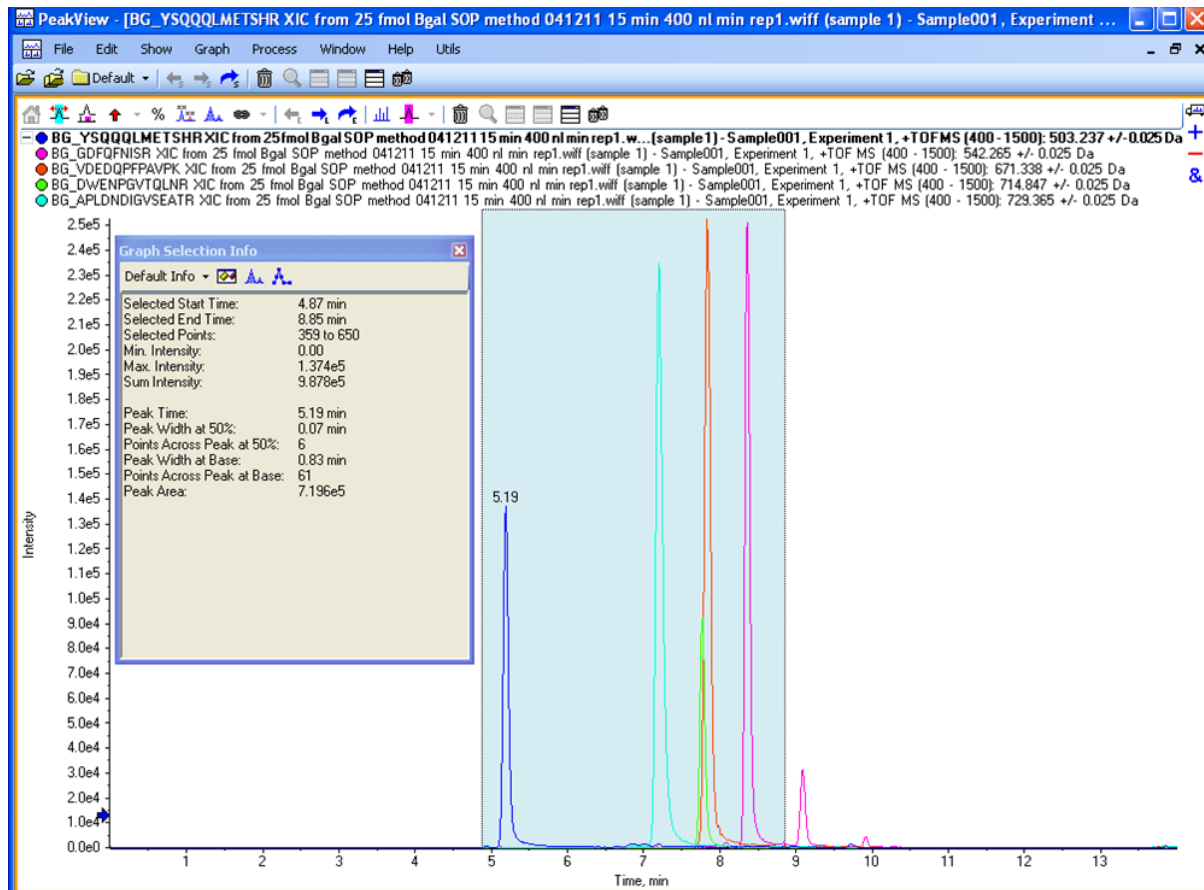

Figure 1-26 TOF MS XICs of 5 peptides from Beta-Galactosidase NanoLC Ultra trap elute run (200 fmol on column)
5. In the **XIC** pane, click and drag across the range of the more intense peaks, as shown in Figure 1-26.